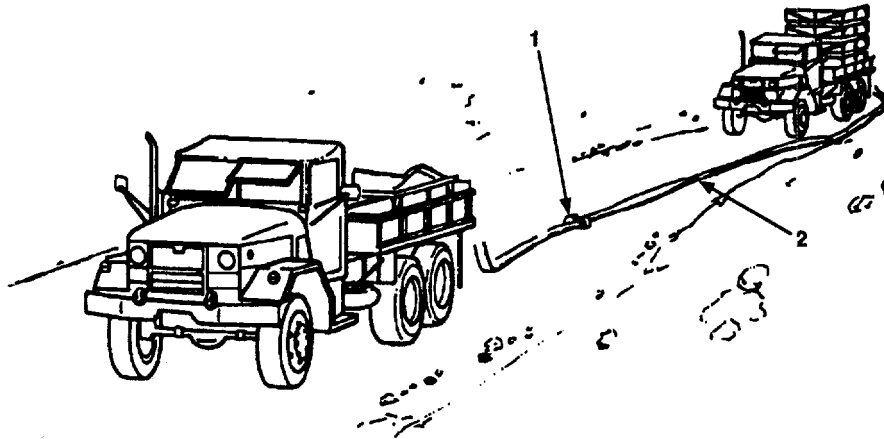

Figure 2-36. Swivel Joint Connection.
Swivel joints (Figure 2-36, 1) must be installed at every 1,000 feet in hoseline (2). If not installed, hoseline (2) will twist during startup and cause damage to equipment.
j. Repeat steps a through i (leaving out step g) to connect each truckload of hoseline to sections already laid. Be sure to install swivel joints (Figure 2-36, 1) at every 1,000 feet in hoseline (2).
k. Connect hoseline (2) to each boost pumping station and storage assembly as those installation sites are reached.
Assemble as shown in Figure 2-36.